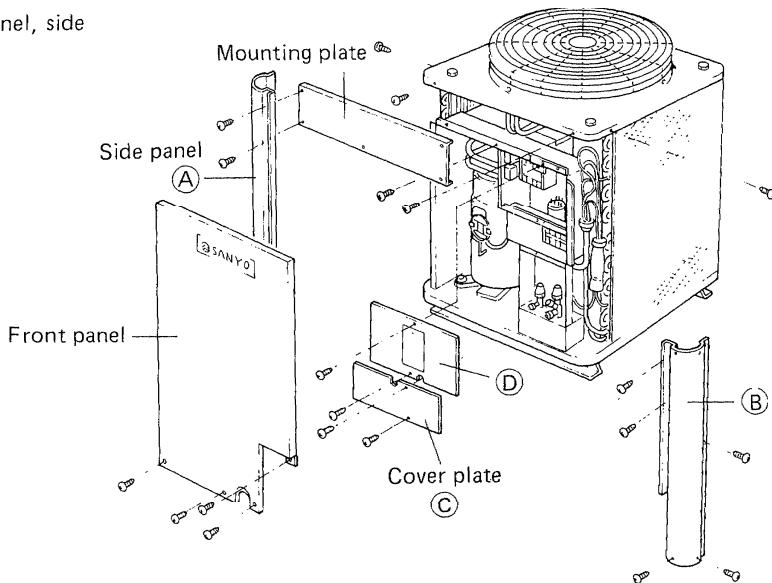

Fig. 13
- 1) Remove the outer panels in the order of front panel, side panel (A), and side panel (B).
- 2) Remove the cover plates (C) and (D).
- 3) Remove the mounting plate. Fig. 13
As there are many places where wires must be removed, execute removal after checking against the electric diagram attached on the rear of the cover plate (D) (Fig. 13), and also refer to this electric diagram for reconnection after compressor exchange.